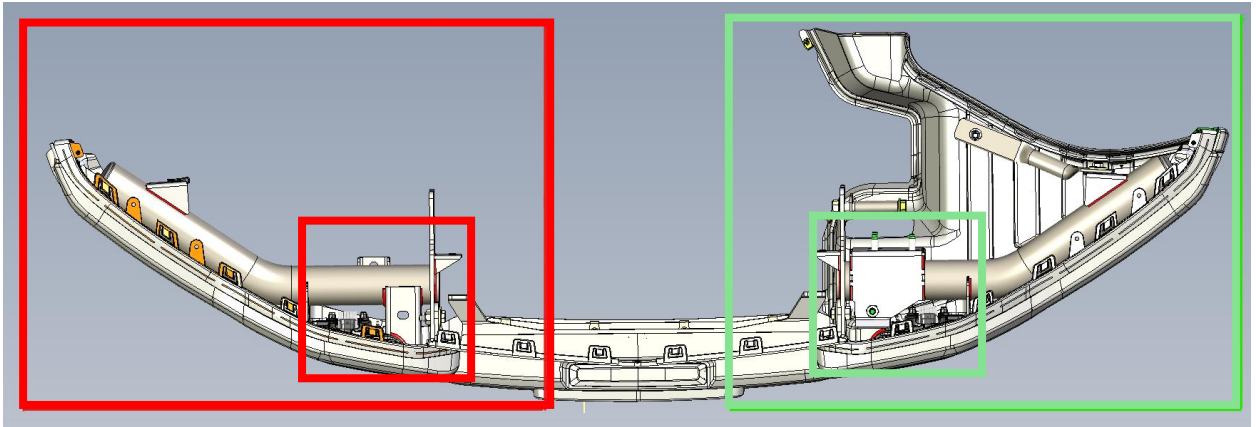

Figure 2 – Top View Passenger side NO AEV Frame Bracket / Driver Side WITH AEV Frame Bracket
- [2] M10 Bolts (11588738) feed upward through bumper and frame bracket on each side – Fig. 2 & 3